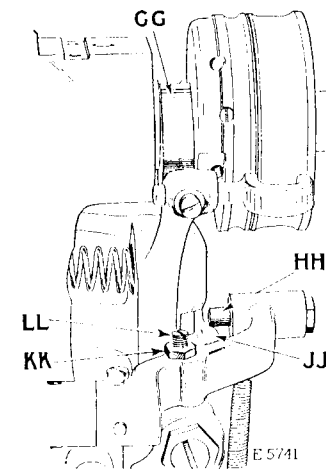

Fig. 24. Adjustments for Timing Upper Thread Trimmer
The upper thread trimmer should be timed to cut the thread immediately after the buttonhole has been cut. In case the upper thread trimmer is not in correct time, turn the driving pulley of the machine until the stop cam interlocking rod rides on the highest point of the stop cam (GG, Fig. 24). When in this position, the lock pin (HH, Fig. 24) 40053 should be $\frac{1}{16}$ inch above the stop cam interlocking rod guide (JJ, Fig. 24) 23514 as shown in Fig.
24. If it is not, loosen the lock nut (KK, Fig. 24) in the tension releaser lever and turn the adjusting screw (LL, Fig. 24) in or out, as may be required, then securely tighten the lock nut (KK).